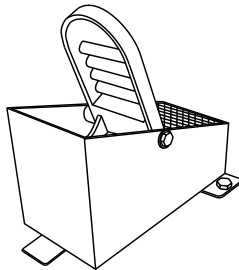

Figure 9. Blade Speed Control Foot Pedal
3. The right foot pedal (Figure 9) controls blade and engine speed. The position of the foot pedal determines the blade speed. Slow blade speed is obtained by slightly depressing the pedal. Maximum blade speed is obtained by fully depressing the pedal.